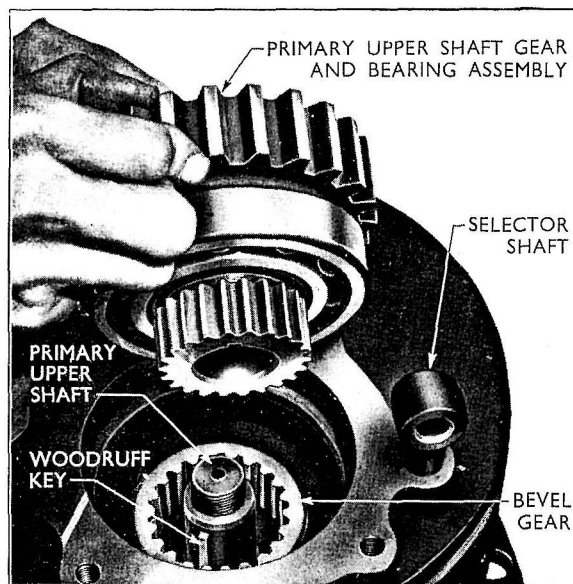

Fig. 39
13. Assemble the primary upper shaft gear and bearing into the housing, adjusting the position of the primary upper shaft to pick up the bore of the gear, mating the Woodruff key with the keyway in the gear (see Fig. 39). It is important that the key is correctly aligned as the gear is pushed in, otherwise there is a possibility that the key will be dislodged.